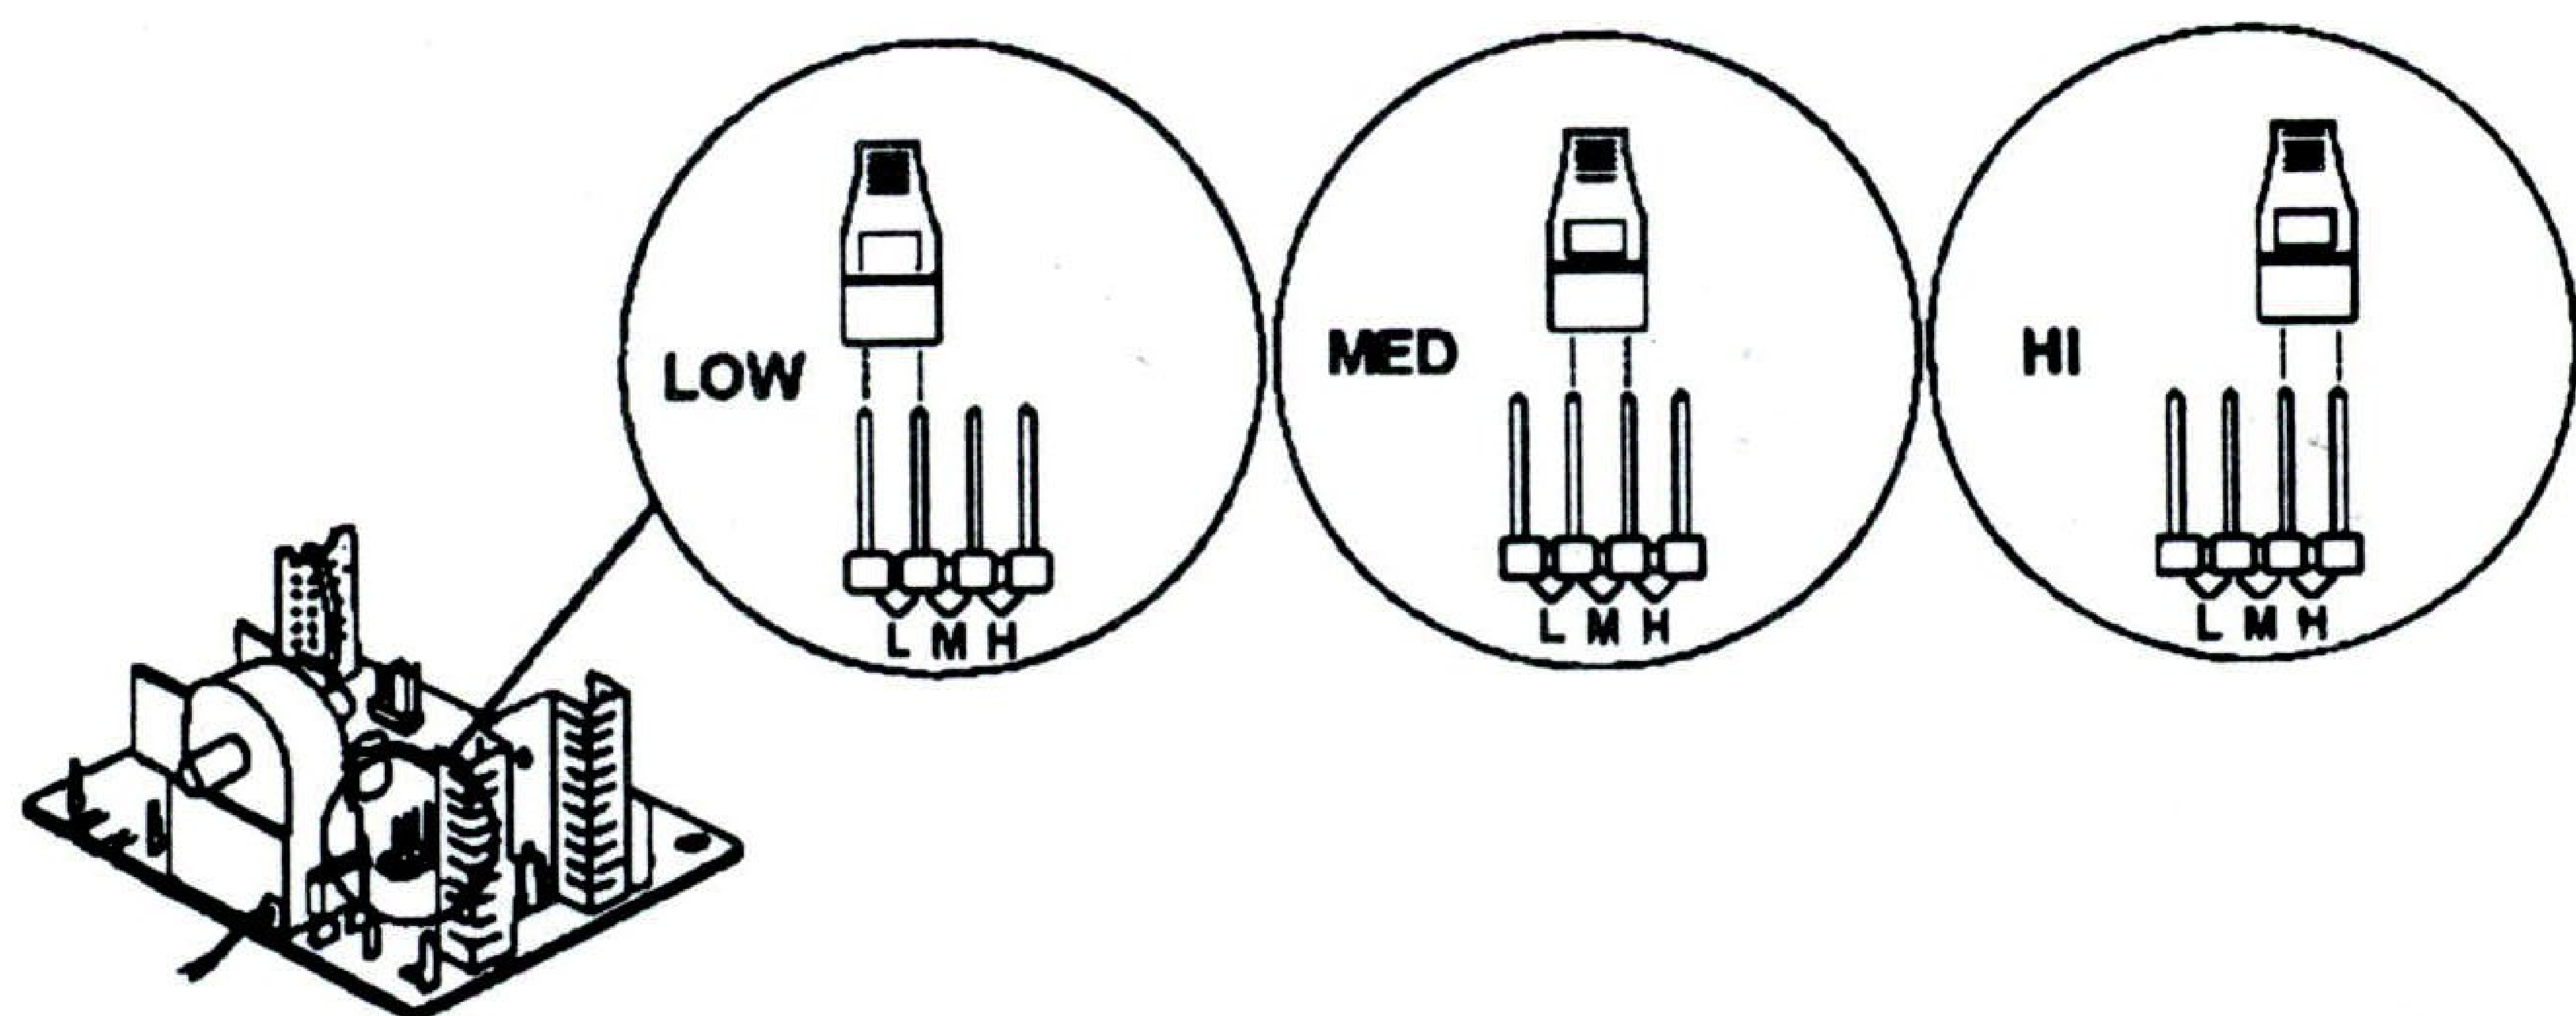

Figure 2
5. Locate the jumper terminal (see Figure 2).